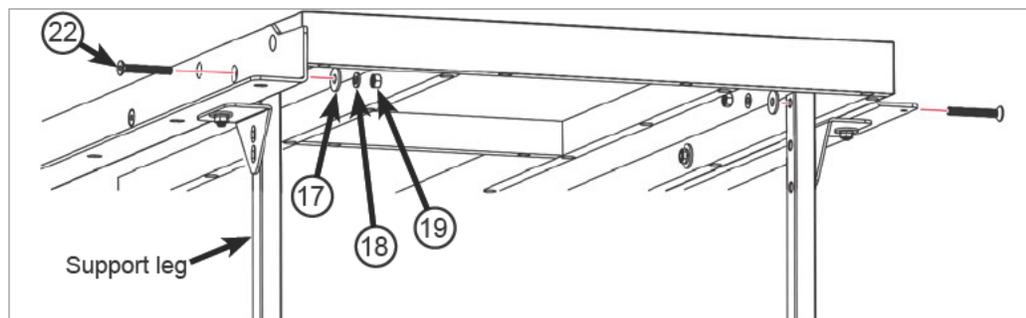

Fig. 22
- The support legs attach to the outer ends of the rails and extension table with M8 x 65 countersunk socket head bolts. Align the top hole in one support leg with the outermost hole in the front rail, and the top hole in the second support leg with the outermost hole in the back rail. Make sure the legs are positioned against the inside of the extension table. Insert an M8 x 65 bolt through the holes in the rails, extension table and legs. Place an M8 washer and an M8 lock washer on the threaded end of each bolt and then thread an M8 hex nut onto each bolt (See Fig. 22). Hand tighten the nuts; do not fully tighten them.